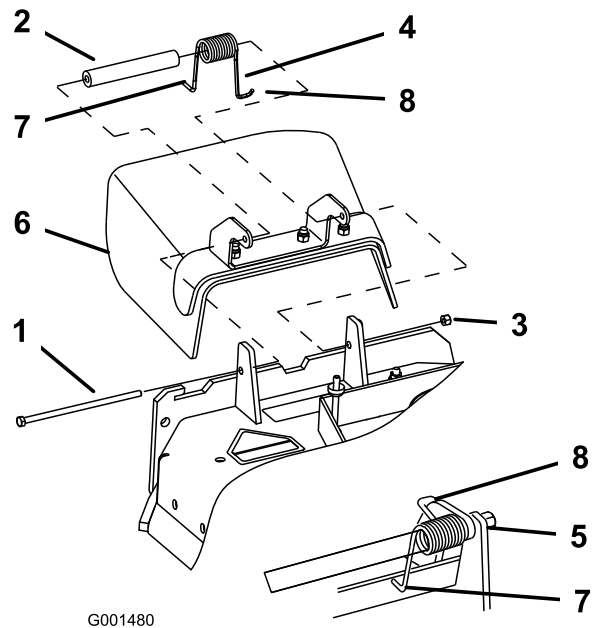

Figure 52
1. Remove the locknut, bolt, spring and spacer holding the deflector to the pivot brackets (Figure 52). Remove damaged or worn grass deflector.
Note: Make sure the L end of spring is installed behind deck edge before installing the bolt as shown in Figure 52.
3. Install bolt and nut. Place the J hook end of spring around grass deflector (Figure 52).